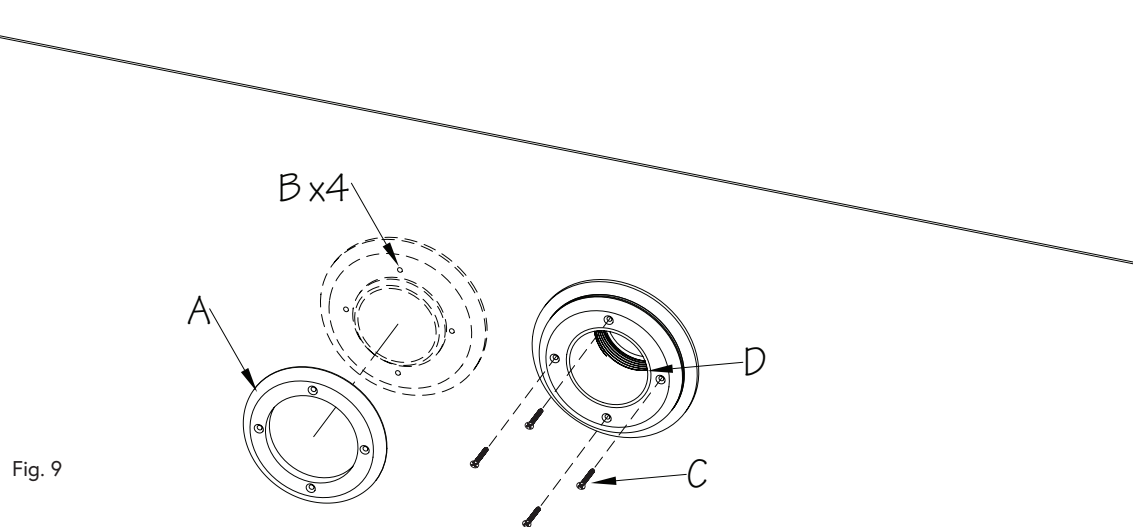

Fig. 9
Once the Faceplates are installed, use a sharp utility knife to cut out the round holes in the liner (D) using the inside of the Faceplate as a template (Fig. 9).